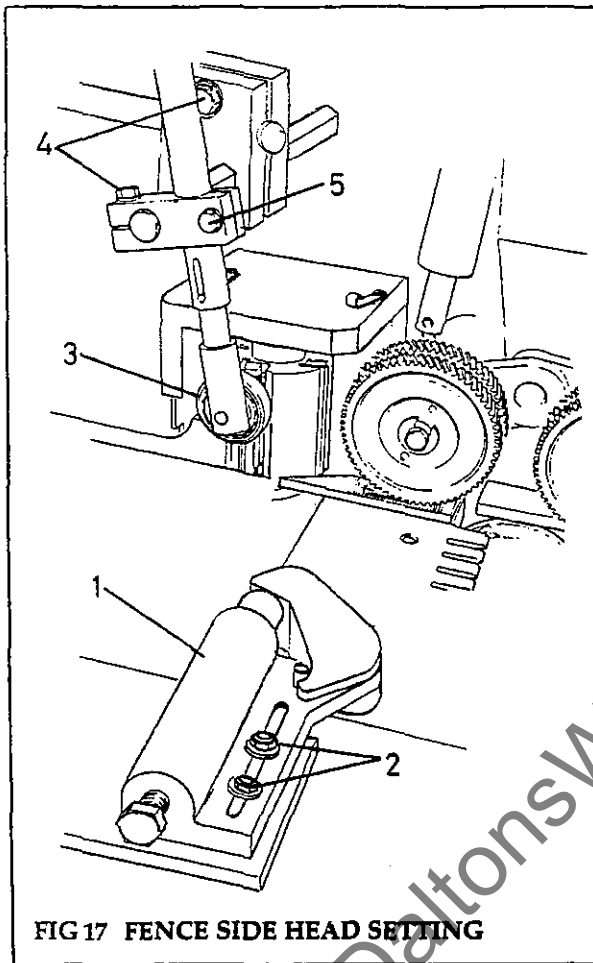

FIG 17 FENCE SIDE HEAD SETTING
- (1) The table (1) rise and fall is adjusted by turning ratchet spanner (2). Set the height required from scale (3) moving the ratchet handle to right or left. Maximum adjustment available is 10mm.
**NOTE:** release lock (11) before adjustment, lock after
- (2) Set the fence (4) adjustment with handle (5) after releasing clamps (6). Refasten clamps after adjustment. Set the amount of cut by direct reading on the scale (7).
- (3) The adjustable guard (8) must be set within 5mm of the maximum timber size. Slacken starwheel (9), set guard and re-tighten starwheel.
- (4) Set side pressures (10), to suit width of workpiece.
**Check/Adjust at Fence Side Head (fig 17)**
- (1) Adjust the side shoe pressure to the timber so that moderate force is exerted on the timber:
- Adjust the side pressure (1) by unscrewing the two nuts (2) and adjusting side rollers to suit width of stock.
- (2) Adjust the top roller pressure to the timber as follows: